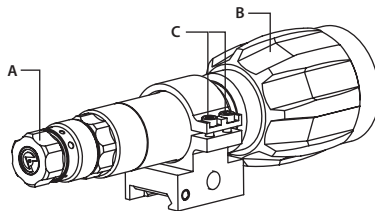

FIGURE 3-13. IR ILLUMINATOR ADJUSTMENT
- Turn on the IR illuminator by rotating the power switch (Figure 3-13, A) from OFF position.
3. To adjust IR beam divergence, turn the objective lens of IR illuminator (B).
4. To adjust the IR spot position in the field of view, loosen the two clamp screws (C) and tilt the IR illuminator as required in the spherical clamp hinge. Tighten the screws using a 2.5 mm hex key.